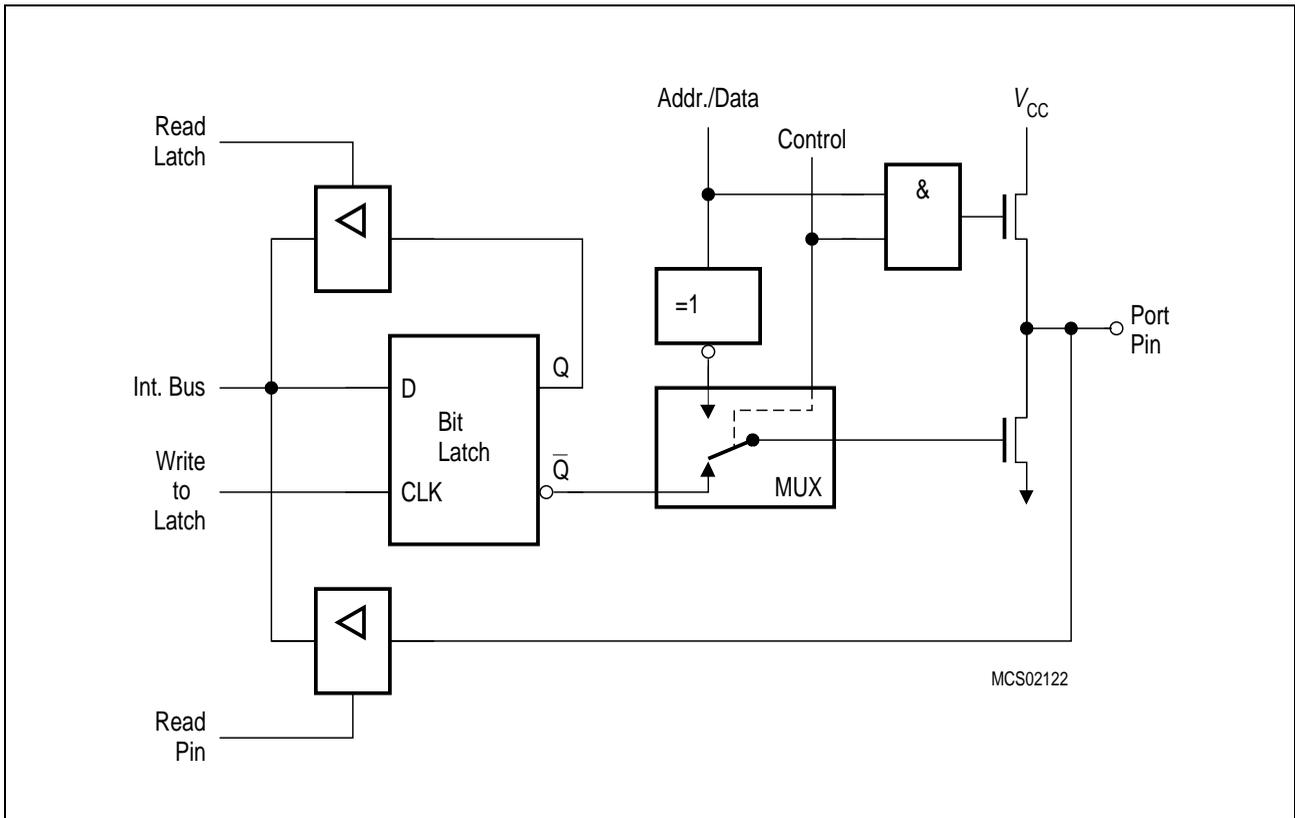
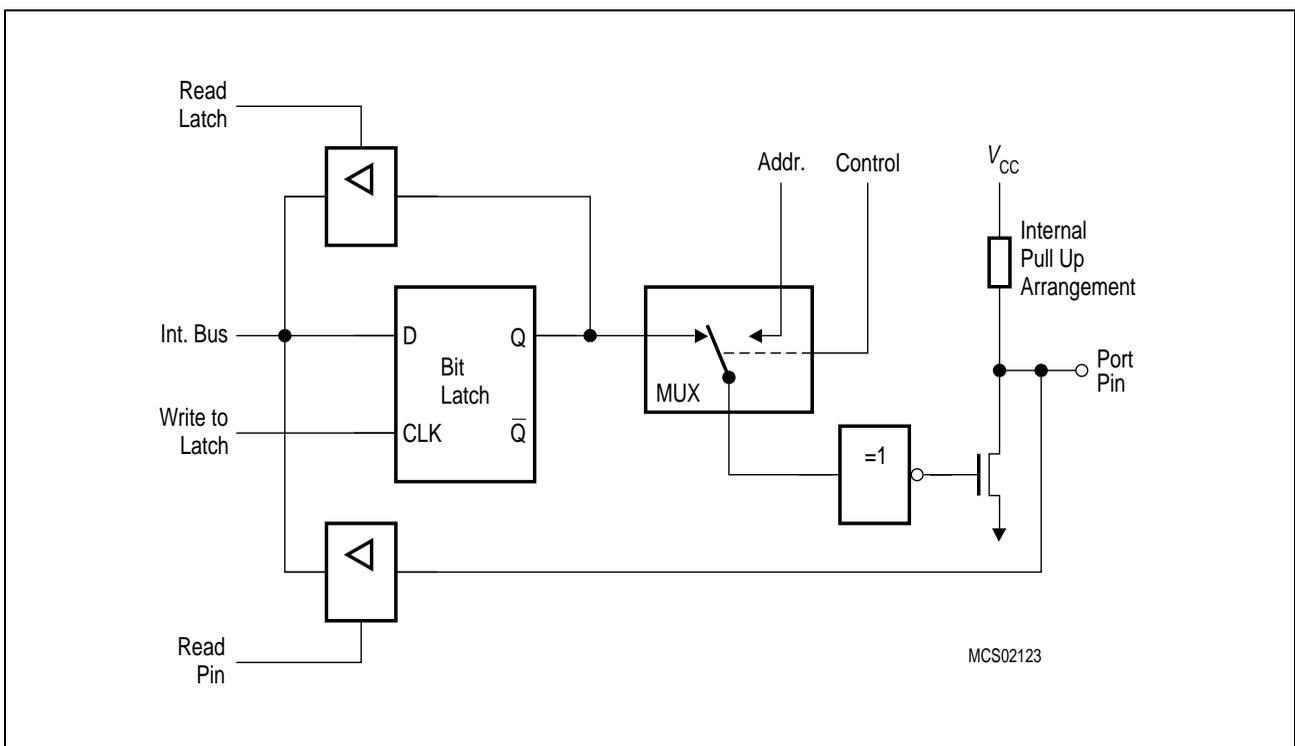

Figure 6-7
Figure 6-8
Port 0, in contrast to ports 1, 2 and 3, is considered as “true” bidirectional, because the port 0 pins float when configured as inputs. Thus, this port differs in not having internal pullups. The pullup FET in the P0 output driver (see **figure 6-7**) is used only when the port is emitting 1 s during the external memory accesses. Otherwise, the pullup is always off. Consequently, P0 lines that are used as output port lines are open drain lines. Writing a “1” to the port latch leaves both output FETs off and the pin floats. In that condition it can be used as high-impedance input. If port 0 is configured as general I/O port and has to emit logic high-level (1), external pullups are required.
As shown in figure 6-7 and below in figure 6-8, the output drivers of ports 0 and 2 can be switched to an internal address or address/data bus for use in external memory accesses. In this application they cannot be used as general purpose I/O, even if not all address lines are used externally. The switching is done by an internal control signal dependent on the input level at the \overline{EA} pin and/or the contents of the program counter. If the ports are configured as an address/data bus, the port latches are disconnected from the driver circuit. During this time, the P2 SFR remains unchanged while the P0 SFR has 1's written to it. Being an address/data bus, port 0 uses a pullup FET as shown in figure 6-7. When a 16-bit address is used, port 2 uses the additional strong pullups p1 to emit 1's for the entire external memory cycle instead of the weak ones (p2 and p3) used during normal port activity.